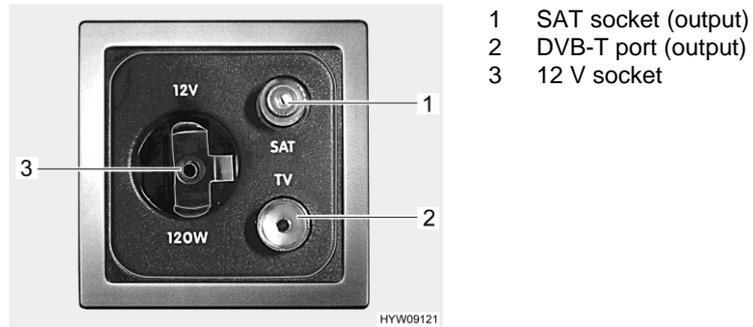

Fig. 60 Sockets (TV unit)
- Plug the suitable cable of the television into the SAT socket (Fig. 60,1).
- Plug the suitable cable of the television into the DVB-T port (Fig. 60,2).